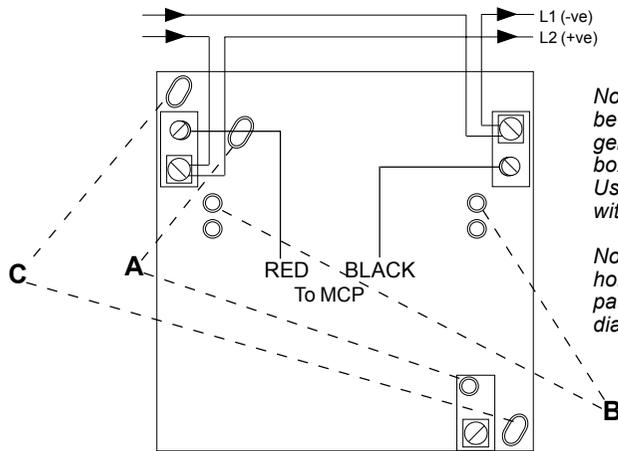

Fig 3. Pattress Connection Diagram
5. Undo the small front cover retaining screw and remove the call point front cover. Remove the 'NOT IN USE' insert. Connect all cables as shown in Fig. 3, secure the call point to the pattress and fit either the 'NOT IN USE' insert or the glass as required. Finally, replace the front cover.